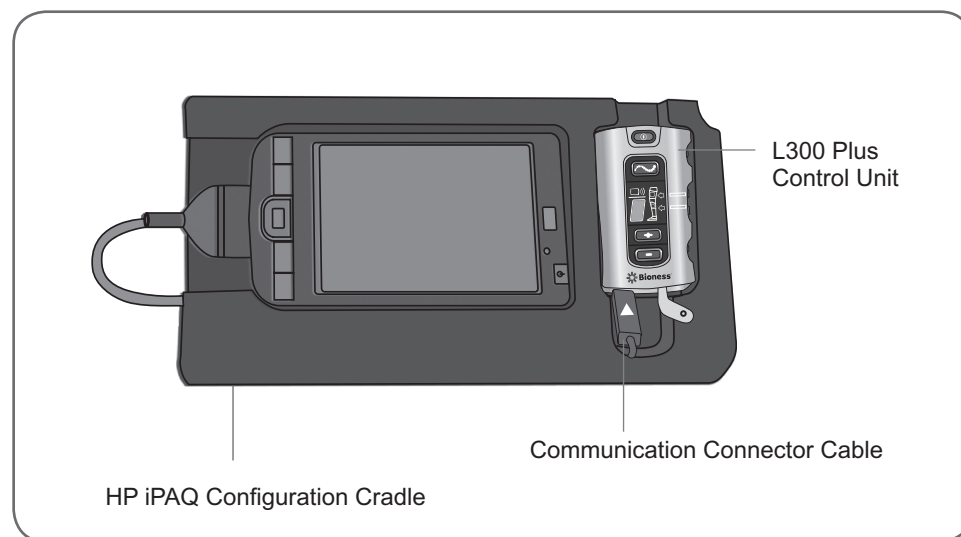

Figure 6-4: Connecting the L300 Plus Control Unit.
2. Plug the communication connector cable into the connector port of the L300 Plus Control Unit. The white arrow should be facing up. See Figure 6-4.